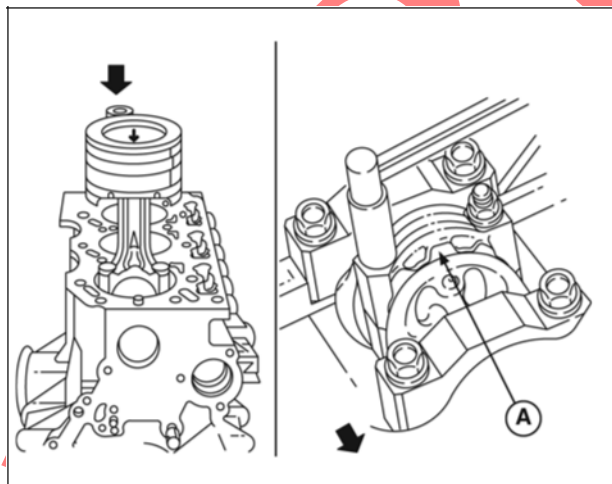

Figure 6
5. Install connecting rod cap with ID mark (A, Figure 6) facing front. Lubricate threads and torque nuts to values listed in Section 14 - Engine Specifications.